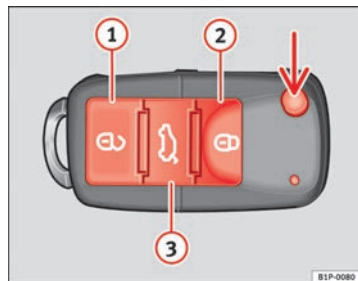

Fig. 62 Assignment of buttons on the remote control key
Using the button  $\Rightarrow$  fig. 62 (arrow) on the control, the key blade is released.
Unlocking the vehicle  $\Rightarrow$  fig. 62 ①.
Locking the vehicle  $\Rightarrow$  fig. 62 ②.
Unlocking the tailgate. Press button  $\Rightarrow$  fig. 62 ③ until all the turn signals on the vehicle flash briefly. When the unlocking button  $\Rightarrow$  fig. 62 ③ is pressed, you have 2 minutes to open the door. Once this time has passed, it will lock again.
Also, the battery indicator on the key  $\Rightarrow$  fig. 62, will flash.
When the button  $\Rightarrow$  fig. 62 ①, is pressed once, the driver door is unlocked, all others remain locked.
Press the button  $\Rightarrow$  fig. 62 ① twice to unlock all doors.
- Press the  → fig. 62 button on the remote control.